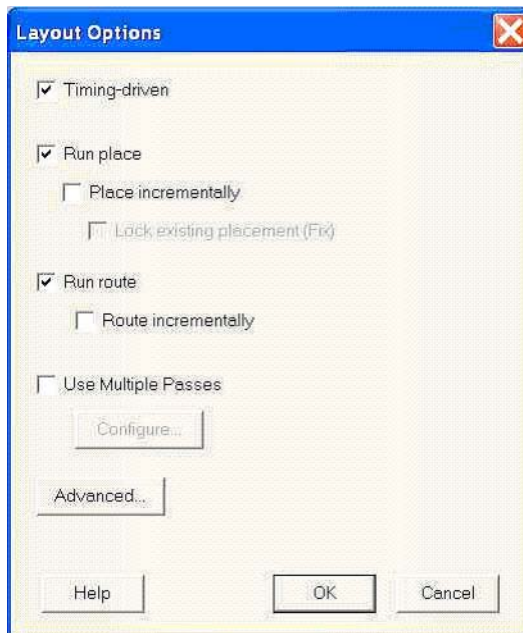

Figure 7-35 • Layout Options Dialog Box
11. In Designer, click Layout. This opens the Layout Options dialog box shown in Figure 7-35.